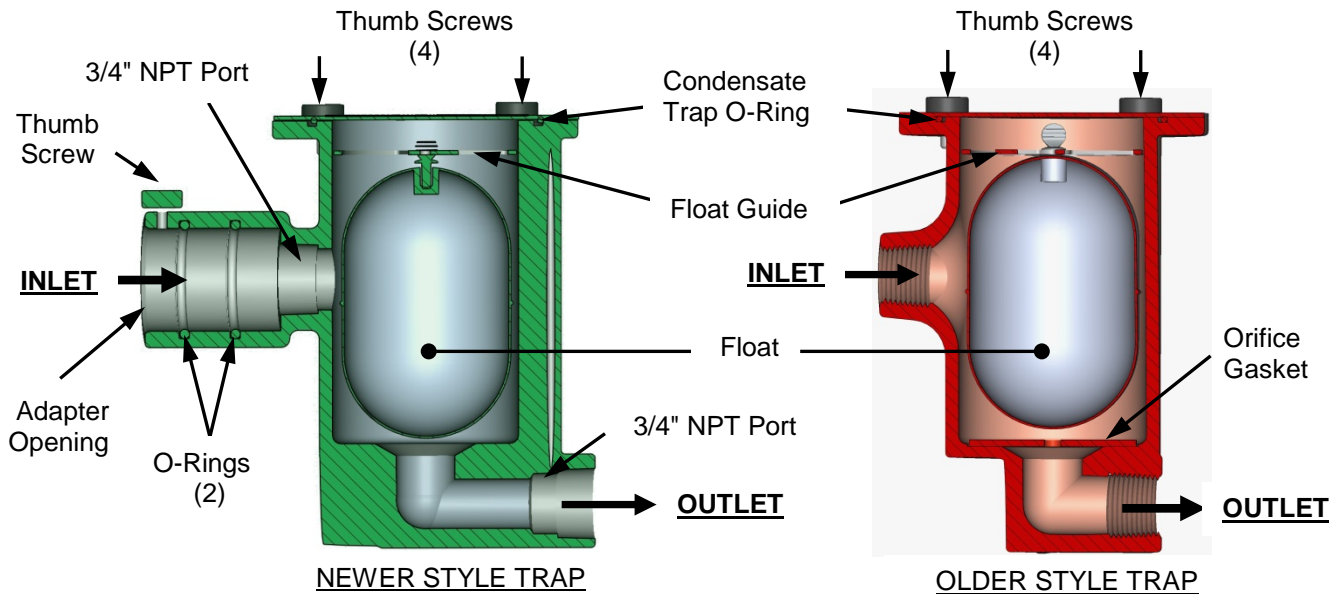

Figure 6-9. External Condensate Trap– Cross-Sections
Currently, two styles of the condensate traps are in use. Both styles perform the same functions and contain identical internal floats. However, the older style has a separate inlet adapter and the newer style contains a built-in adapter. Refer to Figure 6-9. Maintenance tasks for both styles are almost identical, however the newer style does not require an orifice gasket.
2. Remove the connections on the inlet and outlet sides of the condensate trap shown in Figure 6-9.
3. Loosen the four (4) thumbscrews securing the cover on the condensate trap. Remove the cover.
5. For older style condensate traps, remove the orifice gasket shown in Figure 6-9.